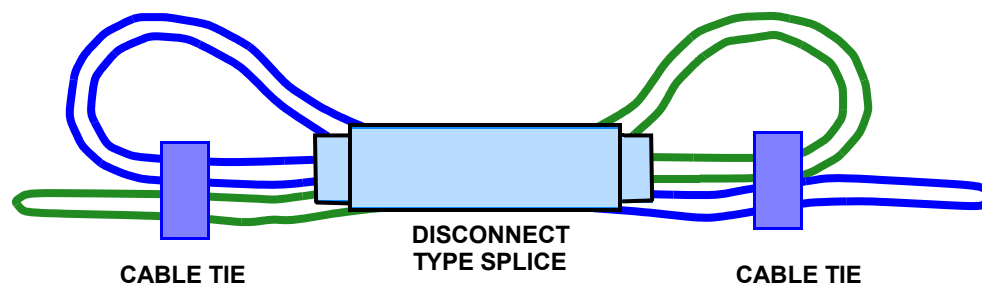

FIGURE 13 - TERMINATION LOOP AT DISCONNECT TYPE SPLICES
- 5.9.7 When installing splices (especially disconnect type splices), ensure that there will be no strain on the wires terminating at the splice (e.g., for disconnect type splices, loop and secure the wires in a manner similar to that shown in Figure 13, if possible,).